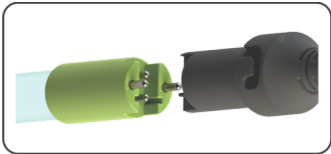

Figure 7a. Standard Output UV Lamp Connection
Step 13: Plug the lamp connector into the lamp. Note the keying for proper alignment (see Figure 7a, 7b). Insert the lamp connector into the gland nut and turn the connector approximately ¼ turn to lock the connector to the gland nut as in Figure 9.